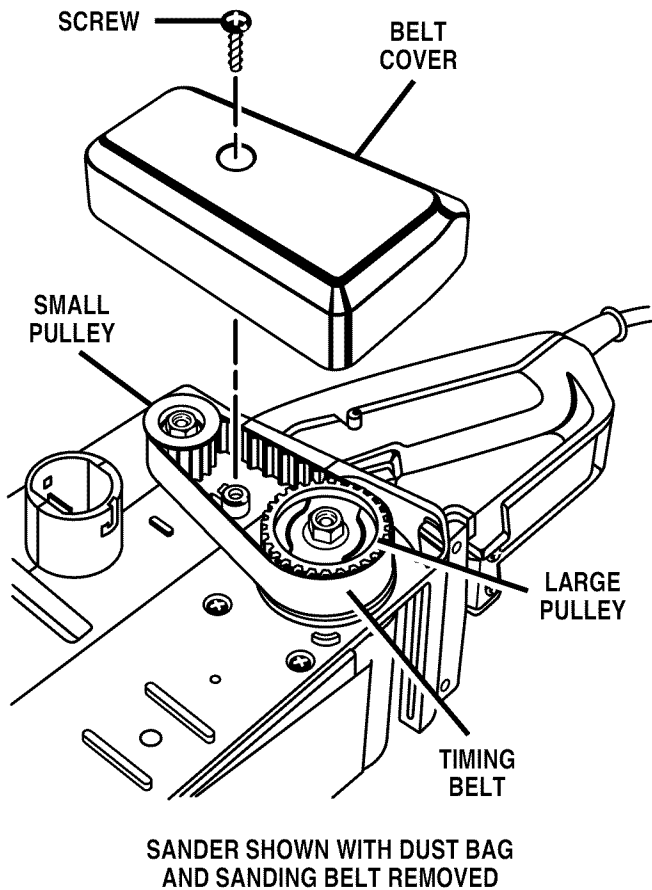

Fig. 10
See Figures 10 and 11.
■ Remove belt cover screw and belt cover. See Figure 10.